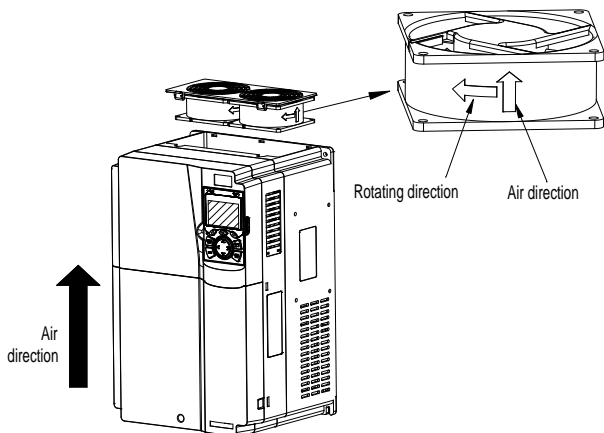

Figure 9-1 Fan maintenance for the 7.5kW and higher VFD models
- Step 5 Install a new fan in the VFD in the reverse steps. Assemble the VFD. Ensure that the air direction of the fan is consistent with that of the VFD, as shown in Figure 9-1.